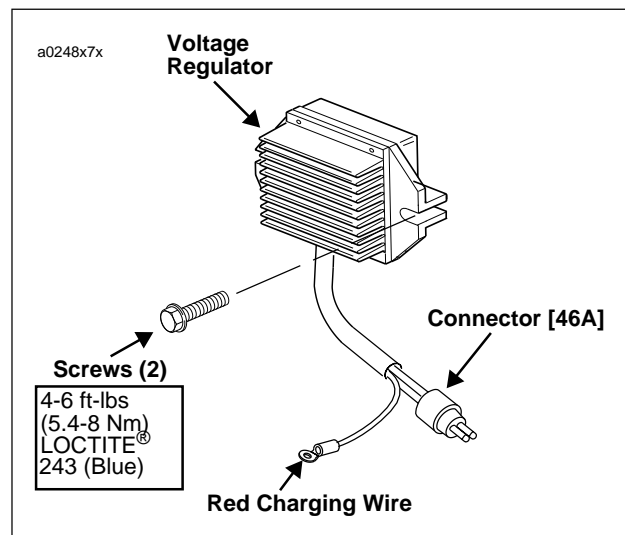

Figure 7-57. Voltage Regulator
- b. See Figure 7-57. Disconnect Red charging wire from gold post of main circuit breaker.
2. See Figure 7-57. Attach **new** voltage regulator using two screws. Tighten screws to 4-6 ft-lbs (5-8 Nm).